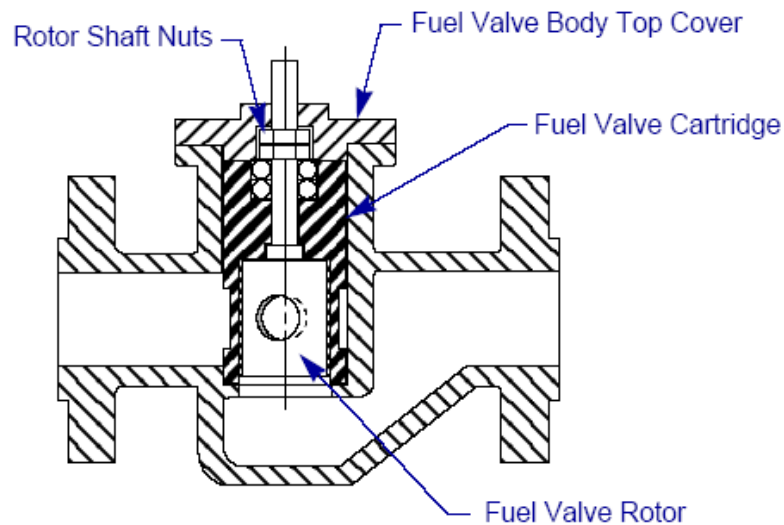

Fig 24 Cut-Away View of Fuel Valve and Cartridge (2-inch Valve Shown)
- 15 Remove the valve body top cover (see Fig 24 on page 66) and pull out the cartridge using the AMOT removal tool (AMOT part number 20498), or two large wrenches between the two rotor shaft nuts.
- 10 Remove the valve body top cover (see Fig 24 on page 66) and pull out the cartridge using the AMOT removal tool (AMOT part number 20498), or two large wrenches between the two rotor shaft nuts.